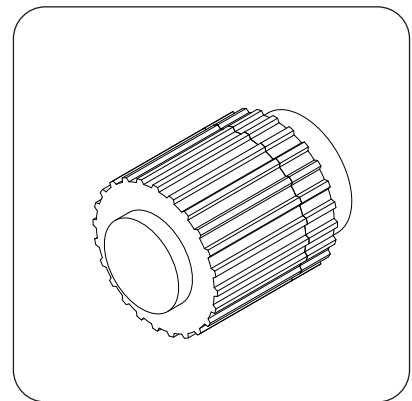
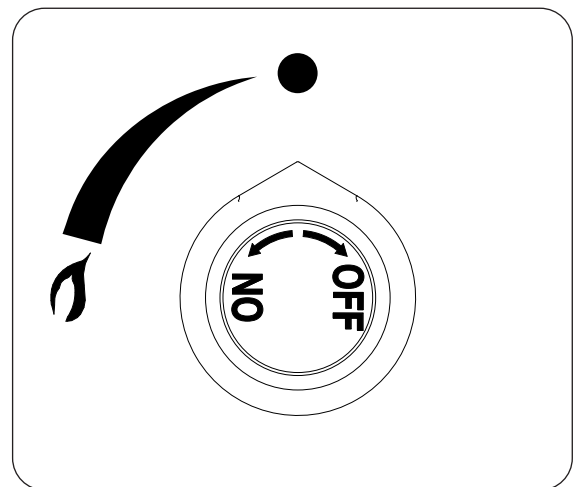

Fig. 27-1 Igniter button detail
Fig. 27-2 Control knob detail
2. Locate the control panel on the side of the unit (refer to the IDENTIFICATION PARTS LIST if needed), and identify the igniter button (Fig. 27-1) and gas control knob (Fig. 27-2). Ensure the gas control knob is in the OFF position before beginning the lighting sequence.
To extinguish your gas burner, turn the gas control knob clockwise to the **OFF** position (see Fig. 27-2). Be sure the control knob is turned fully off to avoid any gas leakage.